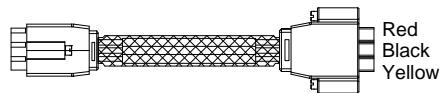

Figure 2-27 Battery cable A
1. Take out the 10A charger cable (DB9) from its package, remove the protective cover of the control port on the rear panel of the 10A charger (see Figure 2-27), and insert one end of the cable into the control port.
2. Remove the protective cover of the control port on the rear panel of the UPS, and insert the other end of the cable into the control port of 10A charger, as shown in Figure 2-27.